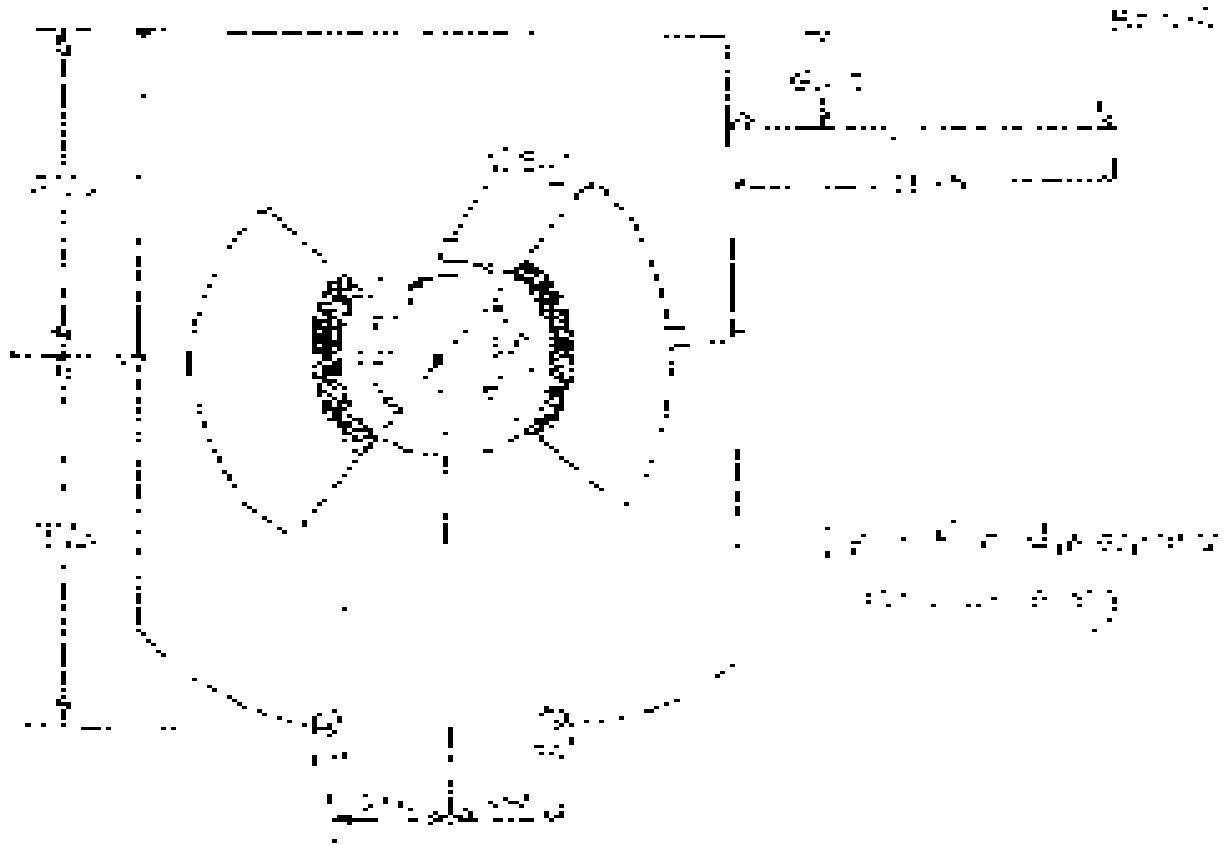

Figure 1 [Q. 4 (b)]
- b) A pivoted double block brake as shown in figure 1 has a face width of 50 mm and coefficient of friction as 0.25. The pivot of each shoe is located such that the moment of friction forces on shoe about the pivot is zero. If the brake drum rotates at 600 rpm calculate 12